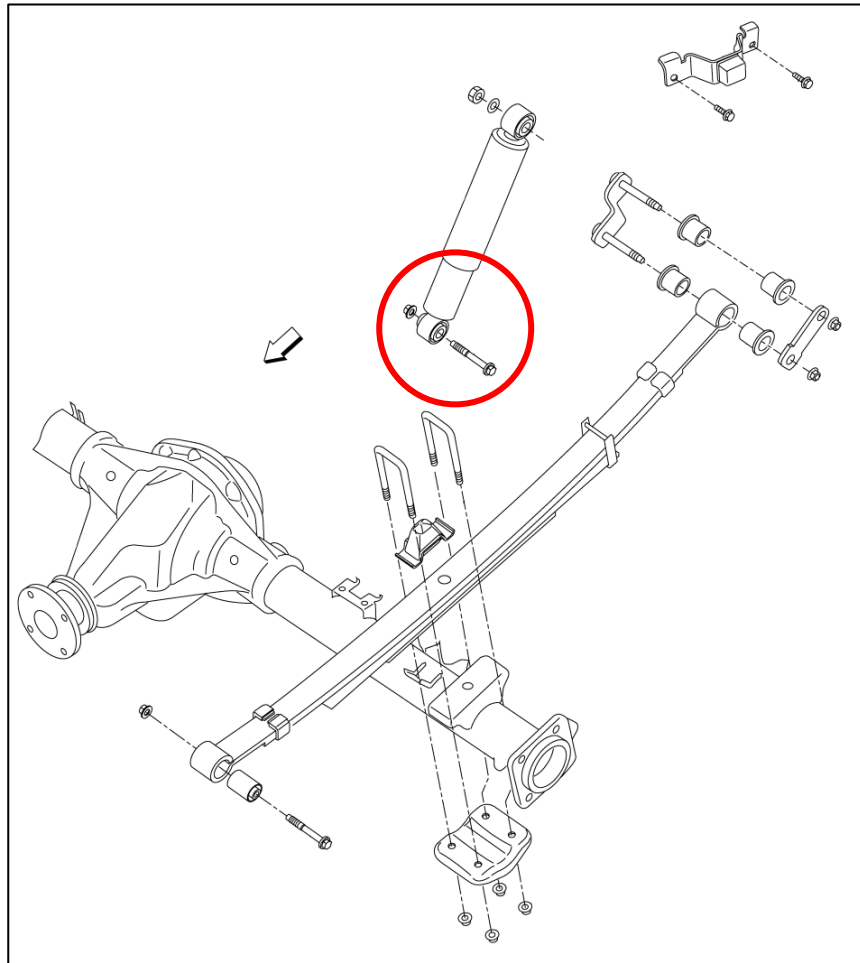

Figure 1
5. Support the Rear Axle with a jack. If you are using a lift, (2) two Pole Jacks are preferred.
6. Disconnect the lower mounting point of the rear Shocks by removing the (1) one nut and (1) bolt securing each Shock. *Figure 1.*